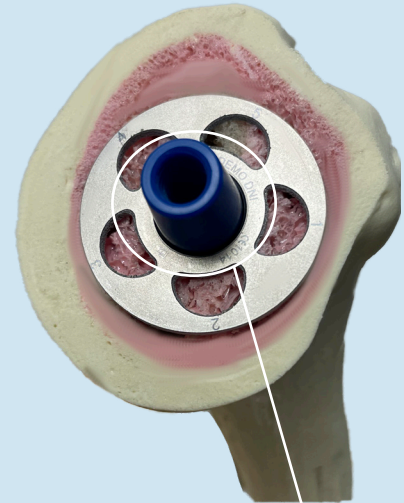

Figure 23
STEP 21: SELECT THE HUMERAL HEAD AND TAPER TRIAL (Figure 23)